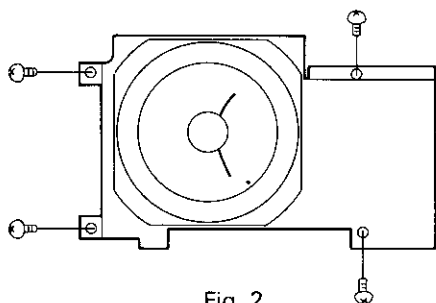

Fig. 2
2. Remove the speaker fitting.(Fig.2)